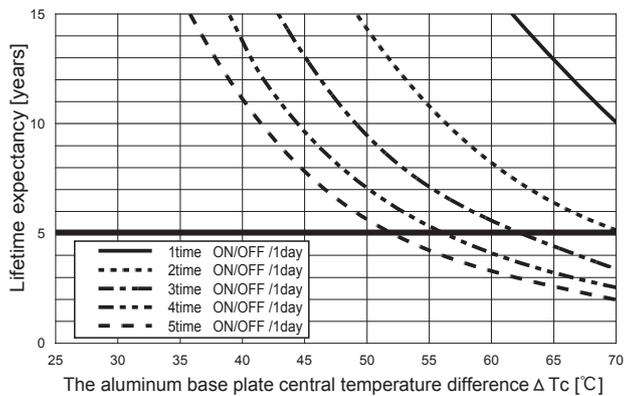

Fig.6.1 Lifetime expectancy against rise/fall temperature difference
■ Product lifetime expectancy depends on the aluminum base plate central temperature difference (ΔT_c) and number of cycling in a day is shown in Fig.6.1.